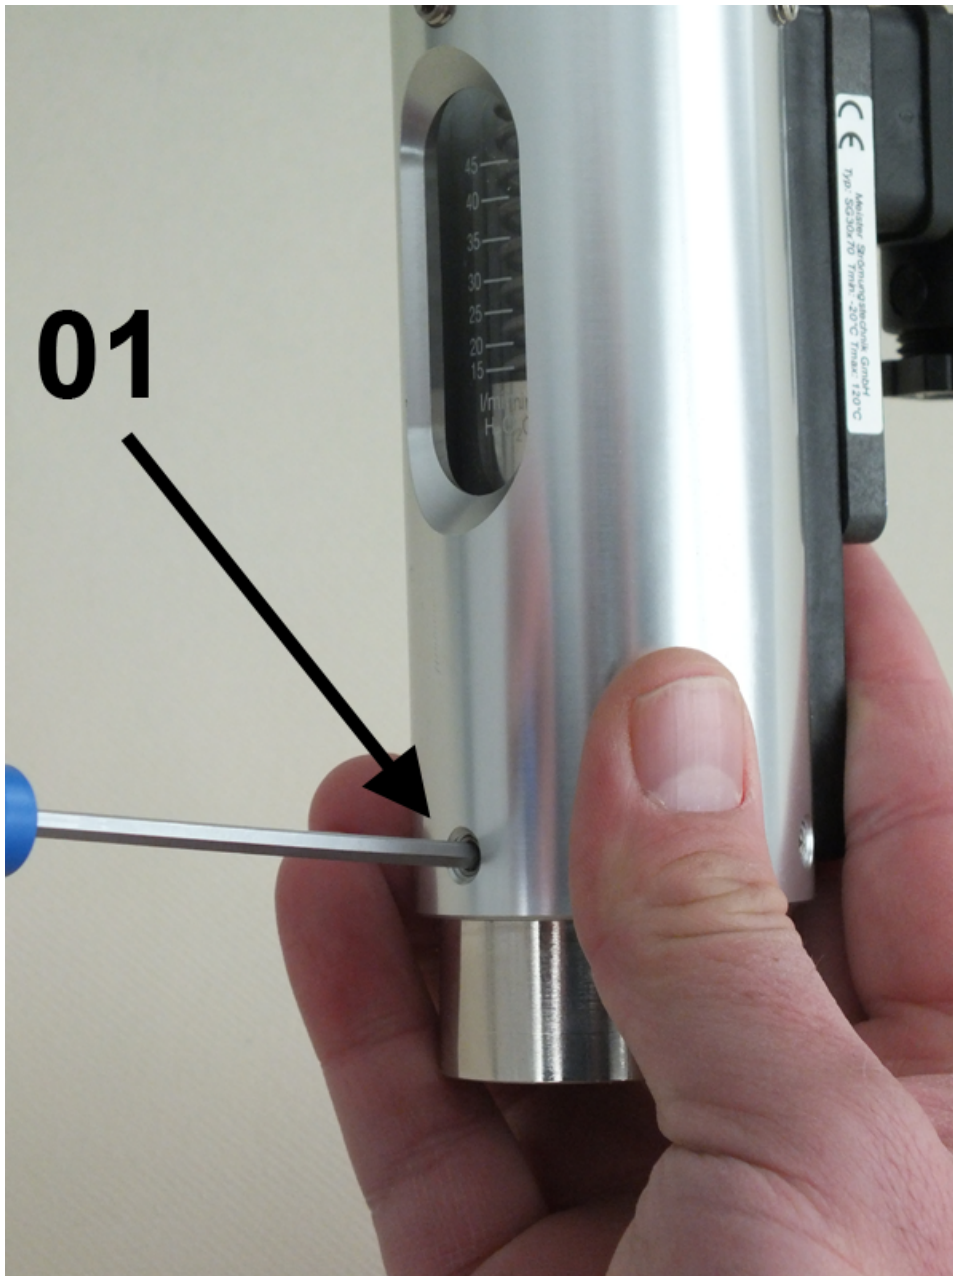

Fig. 43: Loosen screws
3. Secure the device with one hand to ensure the sight glass does not slip out. With the other hand, loosen the lower 3 hex head screws (Fig. 43/01).